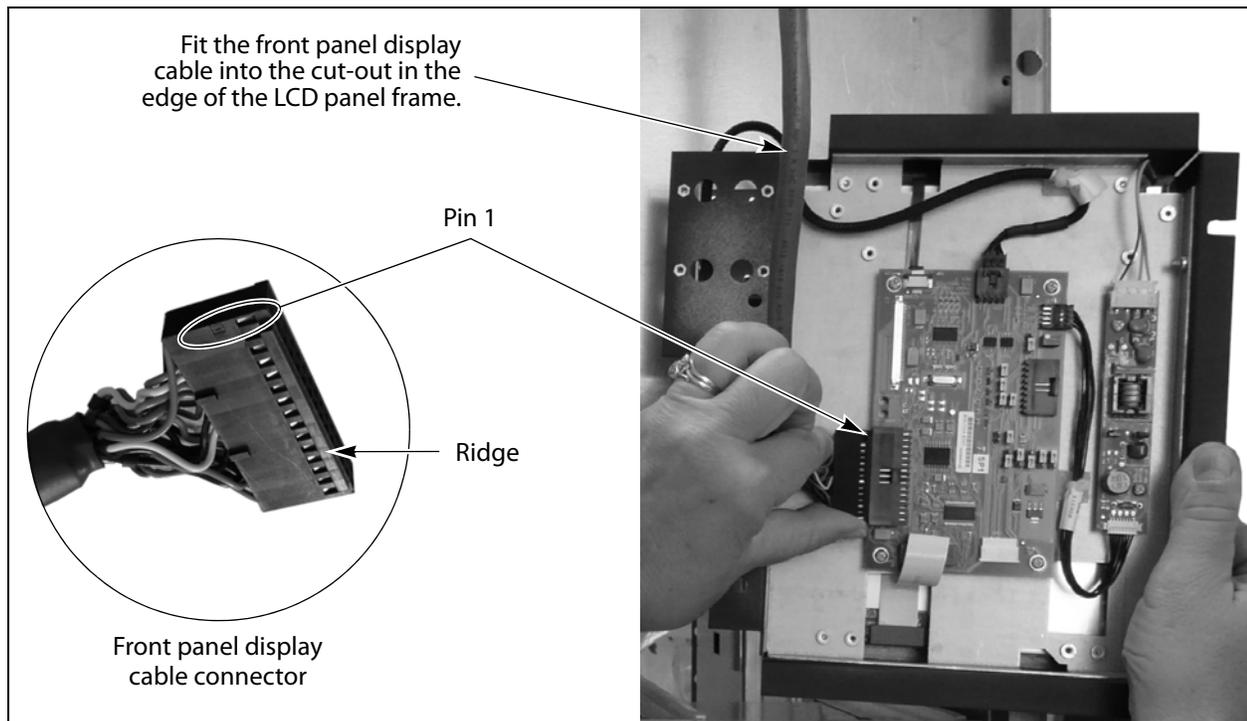

Figure 7 Connect the front panel display cable to the LCD panel printed circuit board.
2. Route the front panel display cable so that it fits into the cut-out on the right-hand side of the LCD panel frame (see Figure 7).